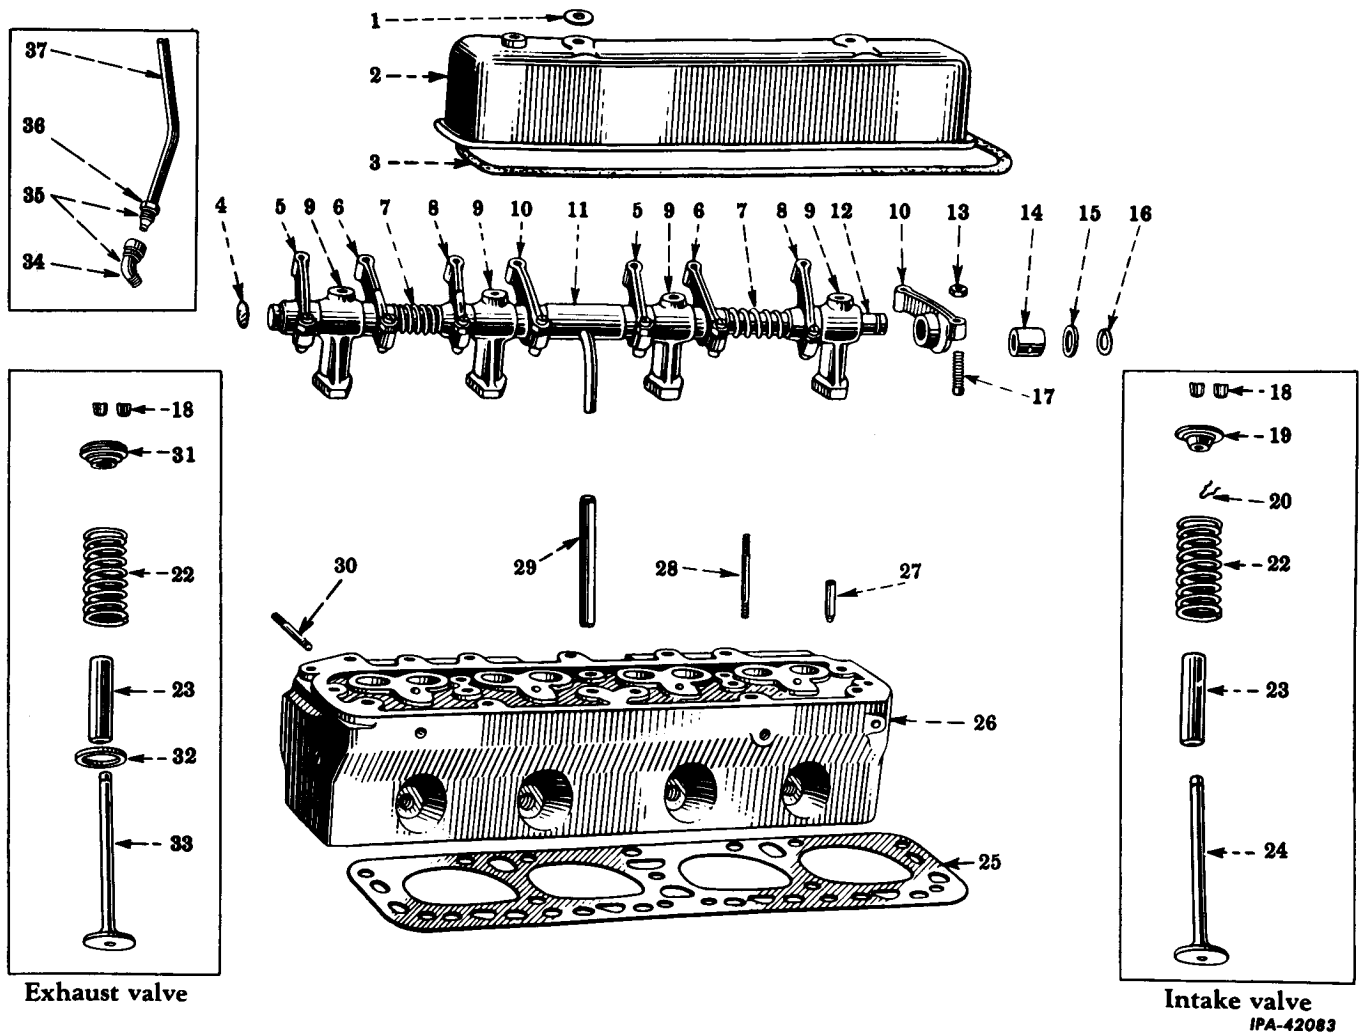

Fig. 16 - Cylinder Head, Valve Cover, Valves and Valve Levers (U-175 Shown - 281 Similar).
9. 175 AND 281 SERIES ONLY: Remove the cylinder head breather pipes and tube by unscrewing the breather pipes and tube by unscrewing the breather pipe (37, Fig. 16) from the rear of the cylinder head. Loosen the coupling nut on the upper end of the breather pipe and push the pipe to the rear, away from the cylinder head. Remove the elbow (34). Disconnect the governor breather pipe from the front of the cylinder head. Remove the connector. Remove the cap screws from the governor breather tube cover; remove the breather pipe, cover and gasket. Disconnect both ends of the cylinder head breather tube from the cylinder head and remove the tube.
### Legend for Fig. 16
(Reference Numbers Refer to Fig. 16)